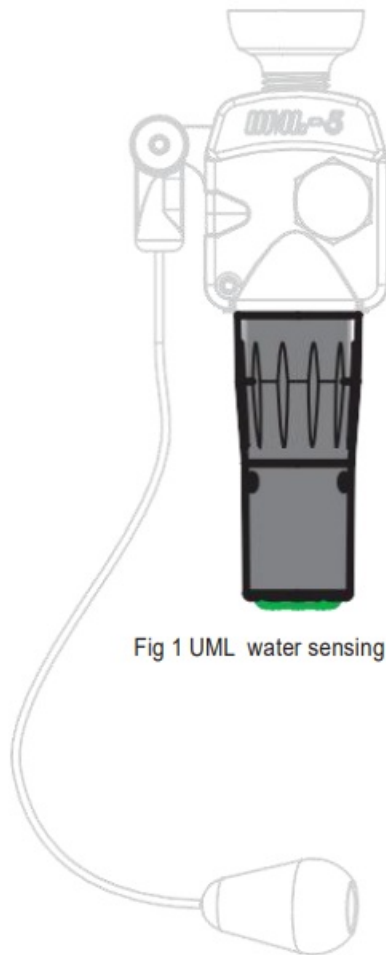

Fig 1 UML water sensing cartridge
1. For models using United Molders automatic inflators fitted with water sensing cartridges (Fig 1.)